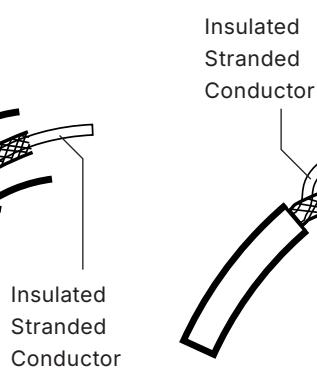

Fig. 3
5. Once the Mud-in Ring is properly secured, proceed to apply drywall compound and feather it out with the ceiling surface. Sand away excess drywall compound until the lip of the Mud-in Ring is revealed. (Fig. 3)
4. Bend the cord to create an opening through the bunched-up portion of outer braided conductor, then pull out the inner stranded conductor (Fig. 3)